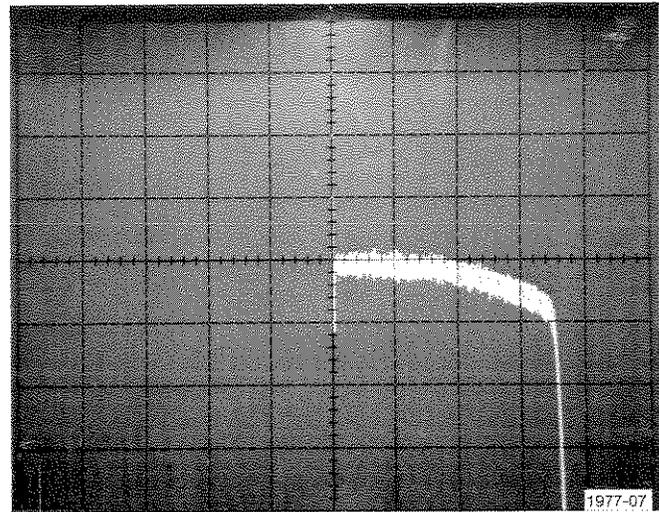

Fig. A-7. Display of large scale voltage gain.
c. Calculate the gain from the horizontal voltage change between the start of the sweep and the knee of the curve (see Fig. A-7).